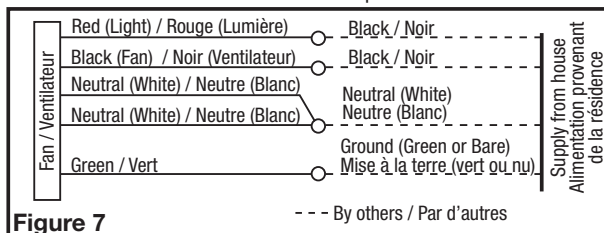

Figure 7
- 1a. From where you have access to inside the fan's junction box, connect the one white wire from the house to both the white wire from the fan's light receptacle and the white wire from the fan's exhaust receptacle. Connect the first black wire from the wall switch to the red wire from the fan's light receptacle. Connect the second black wire from the switch to the fan's exhaust receptacle. Connect the ground wire from the house to the green wire from the fan's grounding screw (**Figure 7**). Use approved methods for all connections.